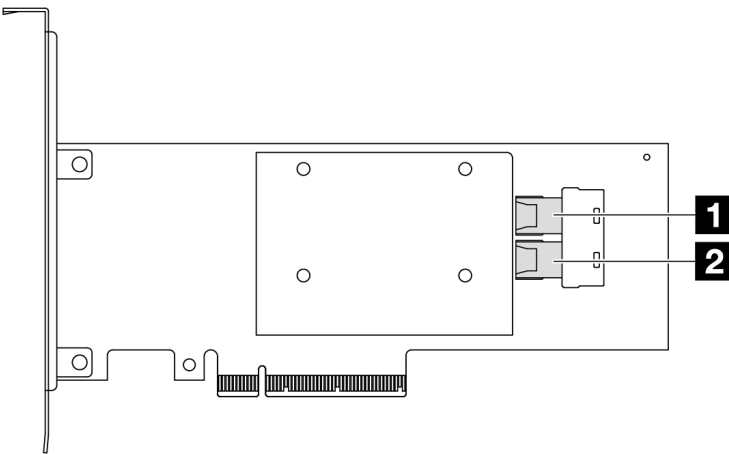

Figure 316. A Gen 3 8i SFF RAID/HBA adapter (two port connectors)
- Figure 316 “A Gen 3 8i SFF HBA adapter (two port connectors)” on page 341